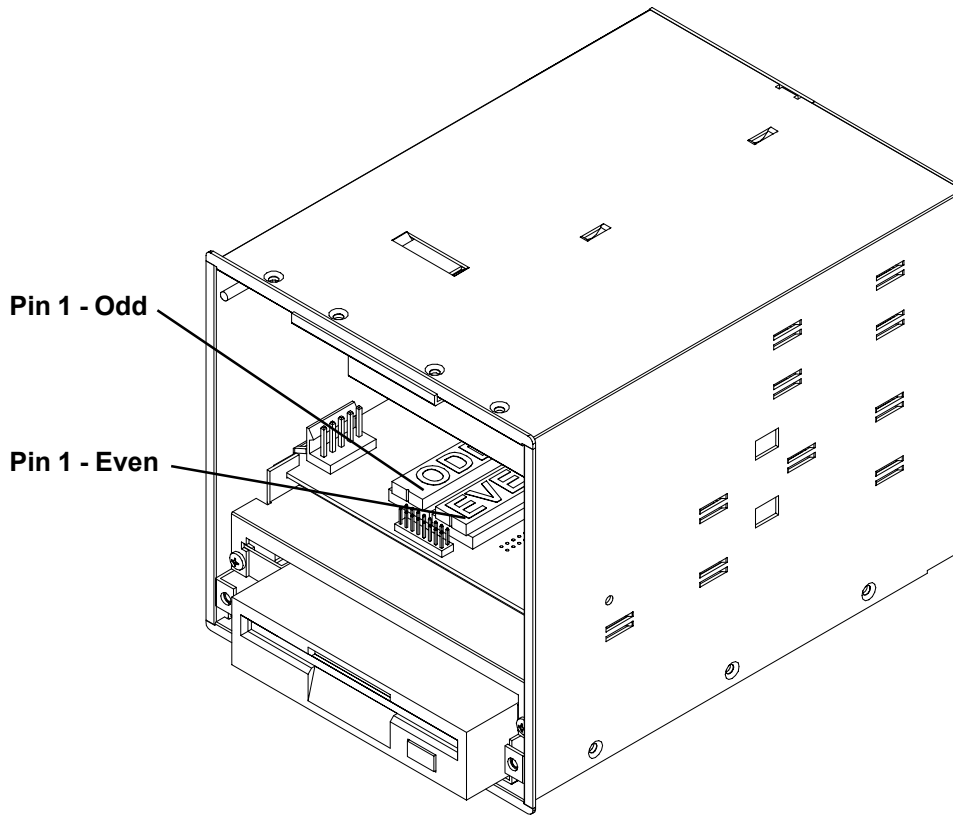

Figure 2 EPROM Installation
- Insert the two new EPROM's making sure that the odd EPROM is to the left and that pin one is oriented correctly (see Figure 2). Ensure that all pins are properly seated in the socket before pressing home.